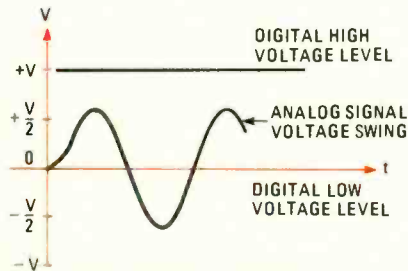

FIG. 3—SITUATIONS WHERE THE ANALOG signal swings below the system ground require that a bipolar supply be used to power the IC.
The basic instrumentation-amplifier (IA) circuit is shown in Fig. 3. That particular design requires three operational amplifiers. If possible, IC1 and IC2 should be a dual op-amp so that drift problems are minimized by keeping the two input devices in the same thermal environment.
FIG. 3—A BASIC INSTRUMENTATION AMPLIFIER. Three op-amps are used: IC1 and IC2 are configured as non-inverting followers while IC3, the output stage, is a differential amplifier.
The circuit in Fig. 3 is a DC amplifier, so it can be used to amplify signal frequencies from DC to the upper limit of the amplifier bandwidth. Some applications, however, cannot tolerate a DC amplifier. The ECG amplifier, for example, has to contend with a half-cell potential formed when metallic electrodes are connected to skin through an electrolytic gel; in other words, a battery is formed. The half-cell potential is seen as an input offset by the amplifier, so that can produce problems. The solution is use AC-coupling.
The integrated circuit instrumentation amplifier (ICIA) combines in one package all of the components required to make an IA, with the possible exception of a single gain-setting resistor (R1 in Fig. 3).
Before we examine some of the infinite amount of uses for these IC's, let's examine one consequence of usage rule 3—the input voltage can't exceed the IC's power supply. Although the voltages running around in a digital system are usually within those limits, analog signals are something else. It's perfectly normal for an analog signal to swing below system ground. That is especially possible if the analog signals are being generated by circuitry whose power supply is separate from the digital supply. Figure 3 is a graph that illustrates that problem perfectly. The digital voltage is between 0 and $V+$ and the analog swing is between $+(V/2)$ and $-(V/2)$. Although the voltage ranges are the same (V volts), it's evident that the difference in the values is going to present a special design problem—or at least one that has to be solved before the switches can be used to process analog data.